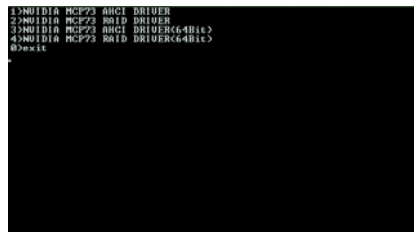
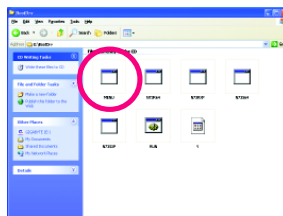

Figure 2
Figure 3
Step 2: When the controller menu (Figure 2) appears, remove the startup disk and insert the blank formatted disk. Select the controller driver by pressing the corresponding letter from the menu. For example, in the menu in Figure 2, to install Windows XP (32-bit) onto your RAID drives, press <2> to select 2)NVIDIA MCP73 RAID DRIVER. Your system will then automatically zip and transfer this driver file to the floppy disk. Press <0> to exit when finished.
Use an alternative system and insert the motherboard driver disk. From your optical drive folder, double click the **MENU.exe** file in the **BootDrv** folder (Figure 3). A command prompt window will open similar to that in Figure 2.